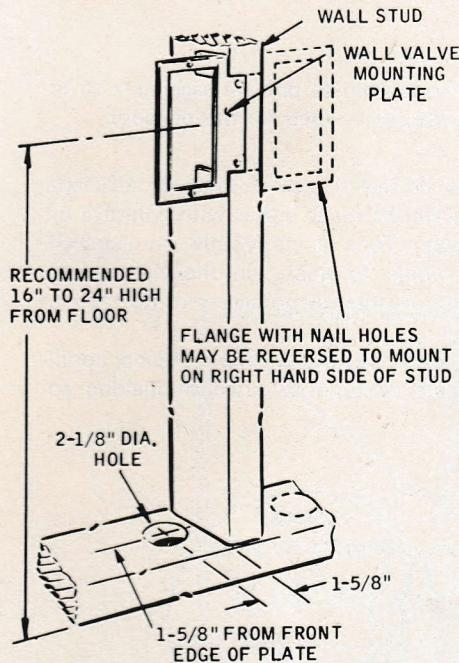

FIGURE 9 – LOCATING VALVE PLATE AND TUBING HOLE
- Nail valve mounting plate to stud at desired height for each valve. (Figure 9) The plate may be mounted to either the right or left side of the stud.
exhaust or belled side of the 90° elbow of the valve assembly (Figure 9).